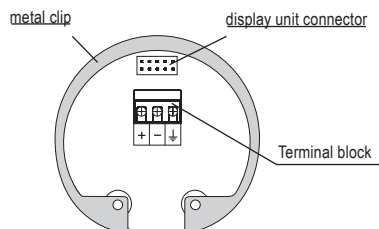

Fig. 17: Inside view of screw terminals of the level meter with current output UPS 1000_--_-I
5. Connect the cable to the screw terminals according to the diagram in Fig. 17 or 18. Firmly tighten the terminals and the cable outlet.